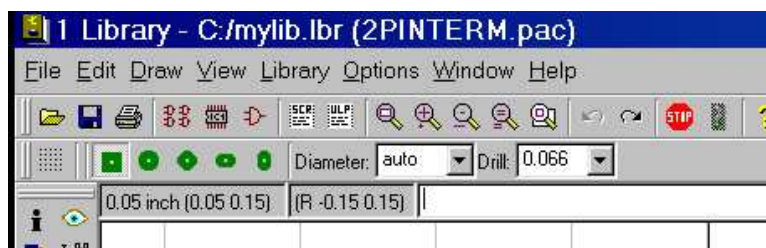

Figure 4.4: Configuration for pads.
- (b) *Create 2 PADS.* The Drill and Pad sizes are configured based on the components wire leads but must also conform to manufacturing standards. For these two pads, configure as shown in Figure 4.4.